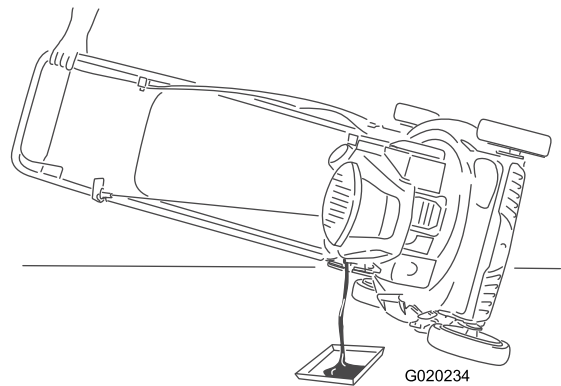

Figure 26
4. Tip the machine onto its side with the dipstick down to drain the used oil out through the oil-fill tube (Figure 26).